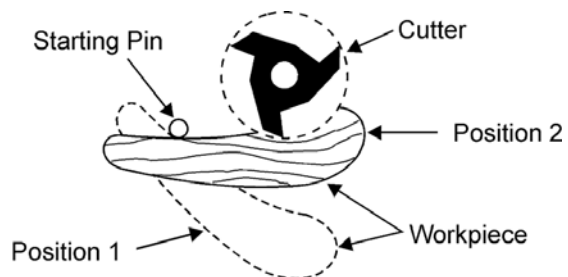

Figure 45
When the workpiece is not contoured all around, start the cut as shown in Figure 45. With this operation, the workpiece is positioned against the starter pin and the end swung into place to start the cut. When the cut has begun and the workpiece firmly against the collar, swing the stock away from the pin and proceed with cut.
- The work should be placed in the *position 1*, (Figure 45), using the starting pin as a support